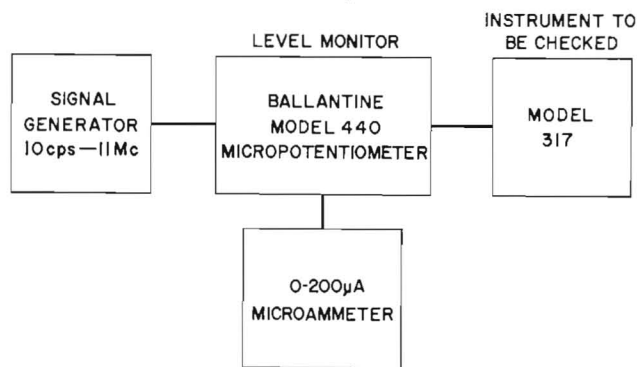

Figure 6. Setup for Measurement of the Frequency Response
4.6.4.1 Connect a stable variable frequency rf generator and Model 440 Micropotentiometer as shown in figure 6 below.